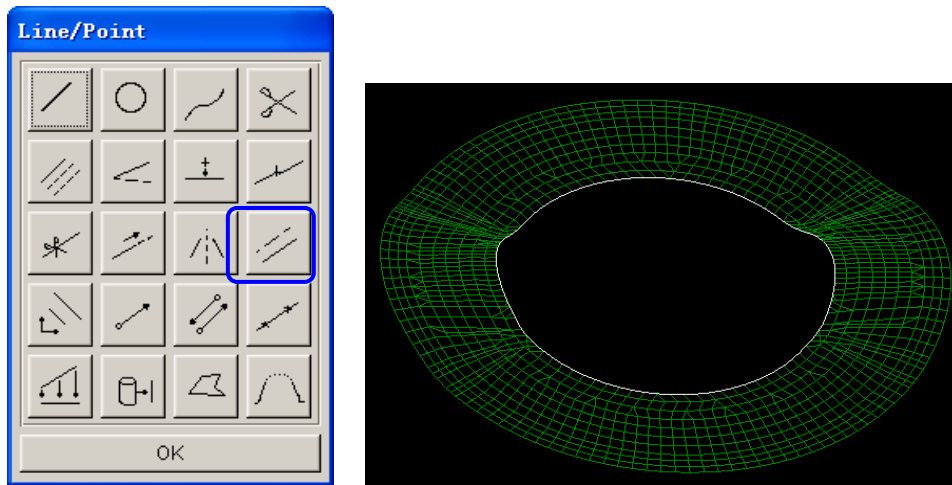

Figure 7.30 Offset a curve
LINE/POINT dialog box illustrated in Figure 7.30. Then, press the **Offset** icon.
9. Next, use your mouse cursor to select the line highlighted in Figure 7.30. Then, click **OK** button to define the coordinate system, following by clicking **Yes** button to accept the default **LCS**.
15. Again, open the DRAWBEAD dialog box in the AUTOSETUP interface. Press **New** button to create a new drawbead. See Figure 7.30.
14. Click on **Input Lns** button to define the boundary of mask using functions provided in SELECT LINE dialog box. Select the highlighted line illustrated in Figure 7.30, following by clicking **OK** button **twice** to return to process definition interface.